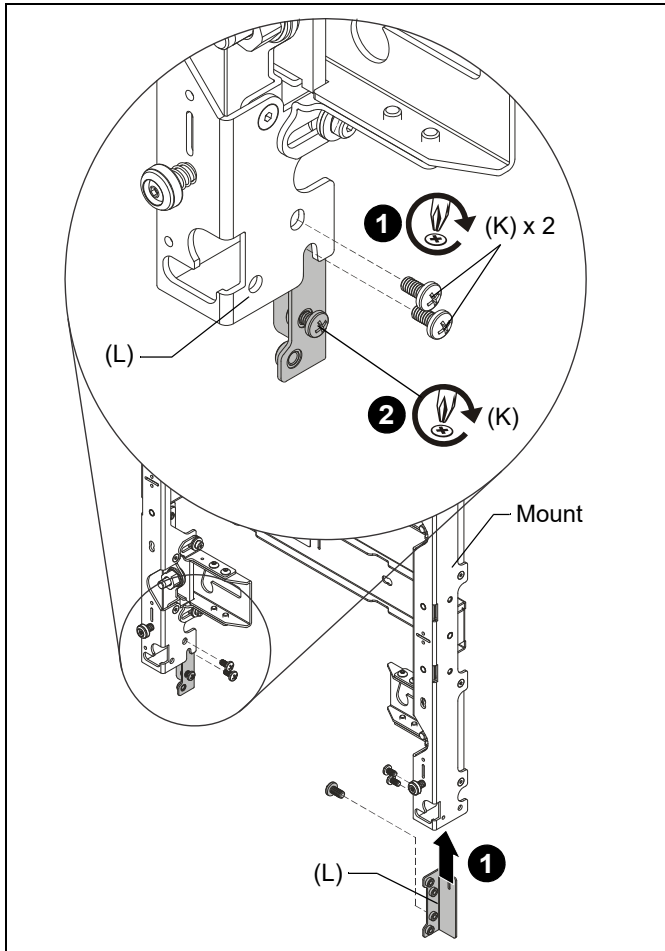

Figure 2
1. Slide the vertical connector (L) up from the bottom of the mount, and attach with two 1/4-20 x 1/2" Phillips pan head screws (K) per vertical connector. (See Figure 2)
2. Loosely install one 1/4-20 x 1/2" Phillips pan head screw (K) in the upper screw hole at the bottom of each vertical connector (L). (See Figure 2)